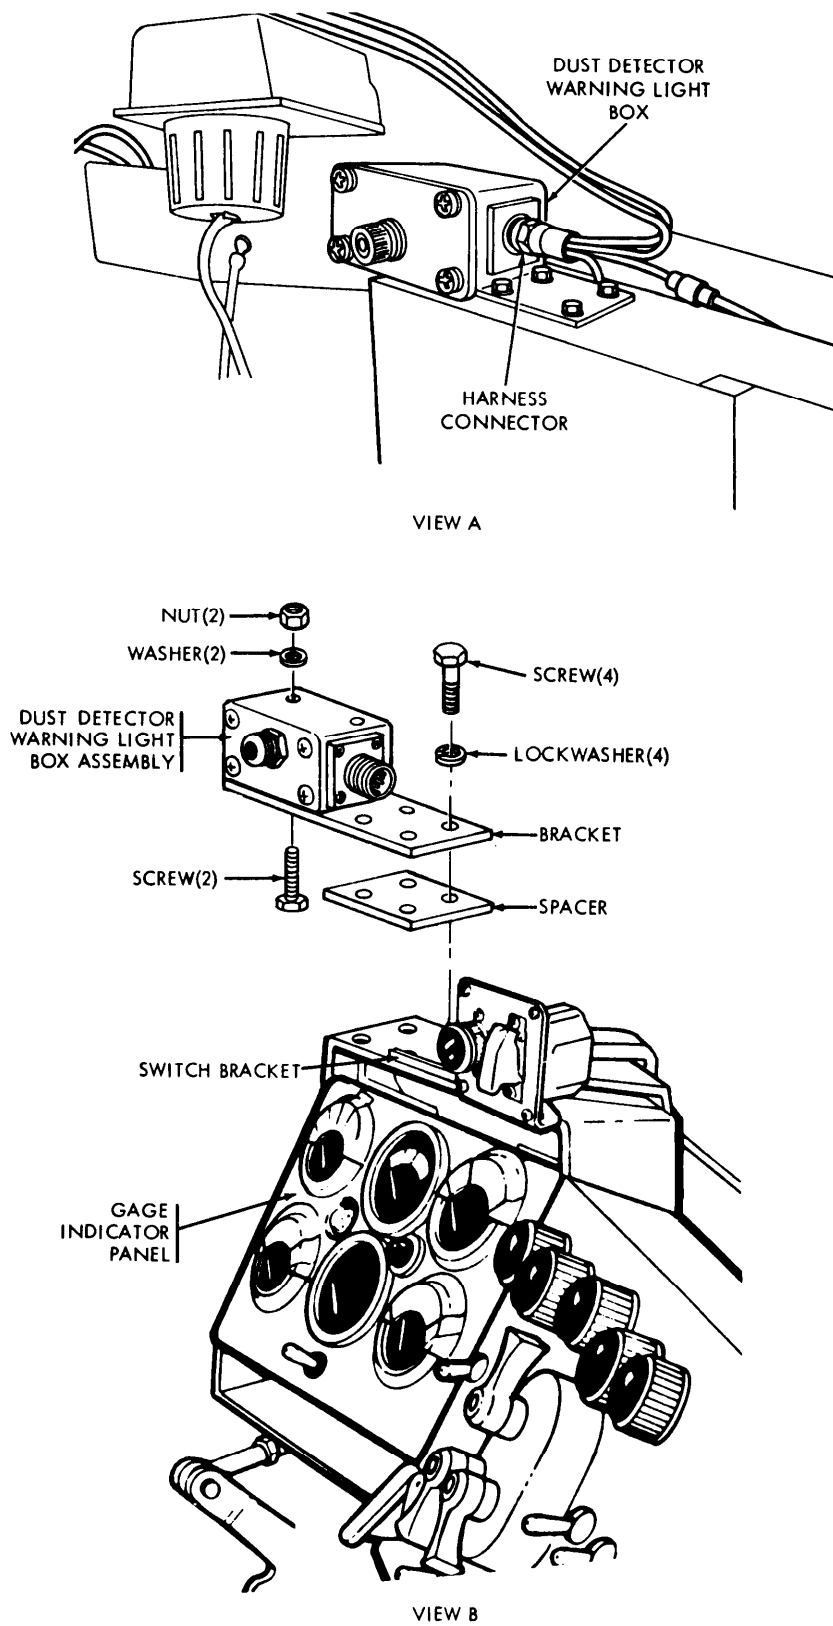

Figure 6-24. Dust detector warning light box assembly replacement (M60A3).
g. *Dust Detector Warning Light Box Assembly Replacement (M60A3) (Fig. 6-24).*